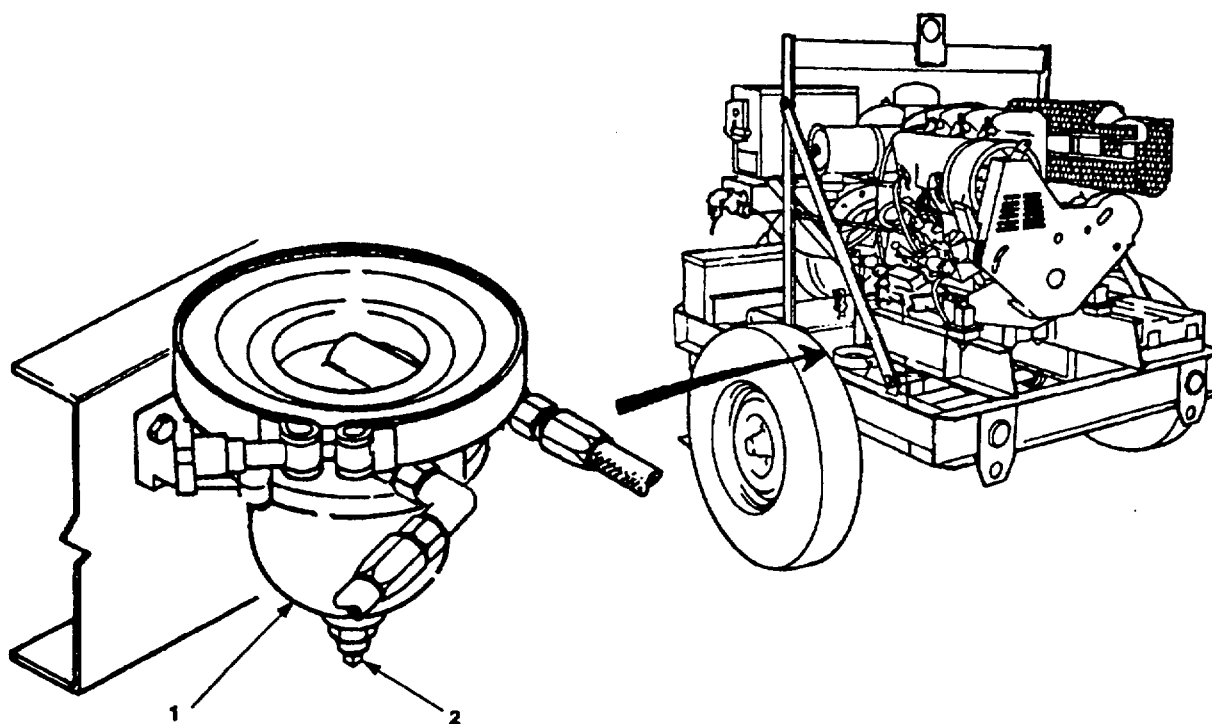

Figure 3-3. Water Separator Servicing (All Except Model 350 PAFN).
- a. Place suitable container under water separator (1, Figure 3-3 or 3-3.1).
- c. On other models, remove plug (2, Figure 3-3) or open petcock drain valve and drain water until clean fuel is observed. When clean fuel is observed, install plug (2) or close petcock drain valve.